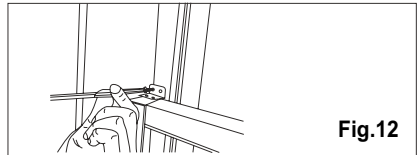

Fig.12
6. To secure lower sash in place, attach right angle sash lock with 12.7mm screw as shown(Fig.12).